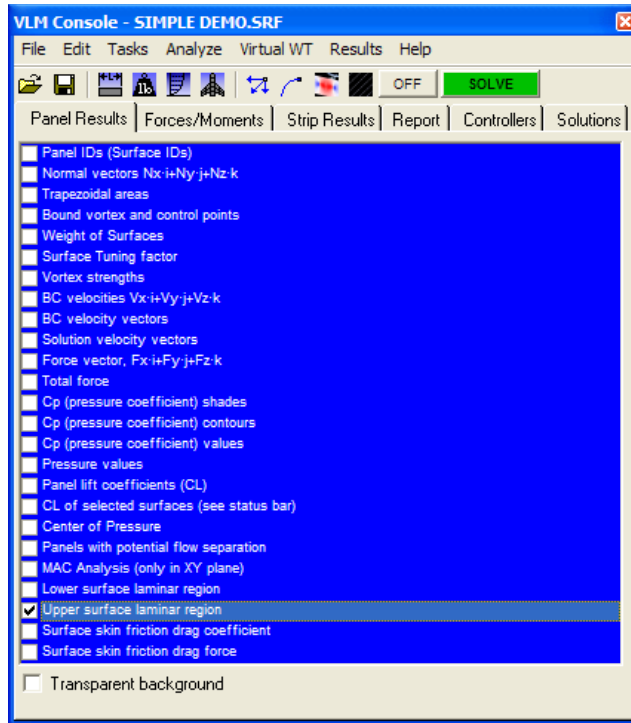

Figure 9-8: Display laminar-turbulent regions.
- STEP 9.9 Open the VLM Console. Select the 'Panel Results' tab find and check the option 'Upper surface laminar region' (see Figure 9-8).